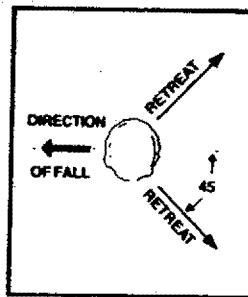

Figure 17
- Plan a clear retreat path to the rear and diagonal to the line of fall.** Figure 17.